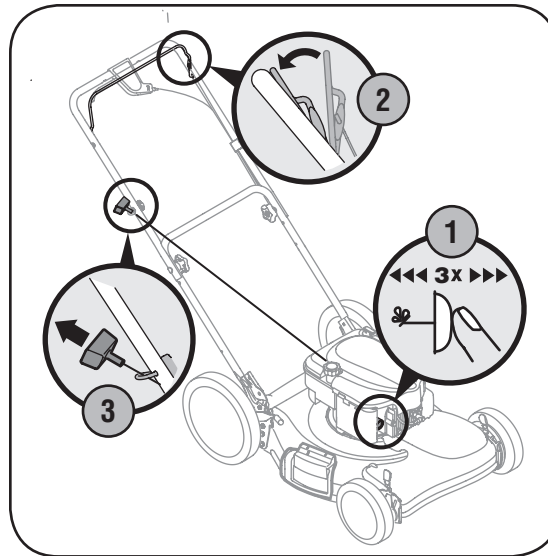

Figure 4-2
1. If equipped, push primer three times. Wait about two seconds between each push. See Figure 4-2. In temperature around 55° F or below, prime five times. Do not prime to restart a warm engine.
2. Standing behind the mower, squeeze the blade control against upper handle as shown in Figure 4-2.